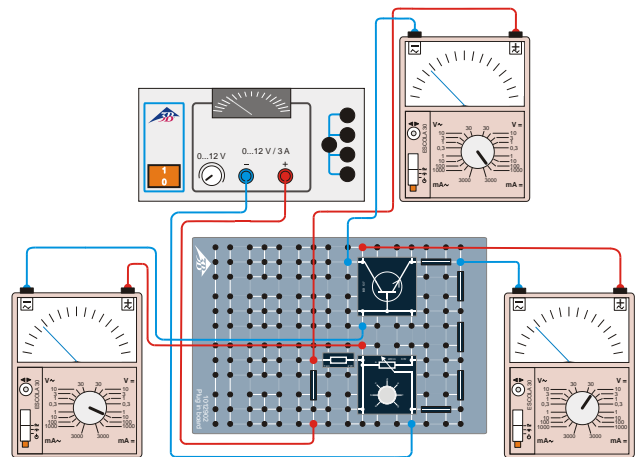

Fig. 4: Sketch of circuit for recording transfer characteristic.
- Set up the circuit as shown in Fig. 4. The three analogue multimeters in the circuit are for the purpose of checking the collector-emitter voltage  $U_{CE}$  while measuring the base current  $I_B$  and collector current  $I_C$ .